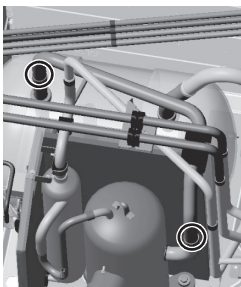

Figure 10
- (5) Remove the braze at the three areas on the accumulator outlet (suction) pipe. (See Figure 10.)